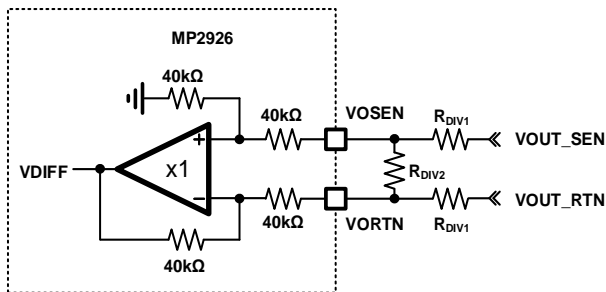

Figure 7: Output Divider Connections when Remote Sense Is Applied
When $V_{OUT} > 3V$, the output voltage must be divided by the reference voltage within 1.55V. Figure 7 shows the typical connections for the remote sense when V_{OUT} exceeds 3V.
V_{OUT_SENP} and V_{OUT_SENN} are from the load, and must be routed as a differential pair on quiet areas. Calculate the voltage divider ratio in Figure 7 with Equation (2):